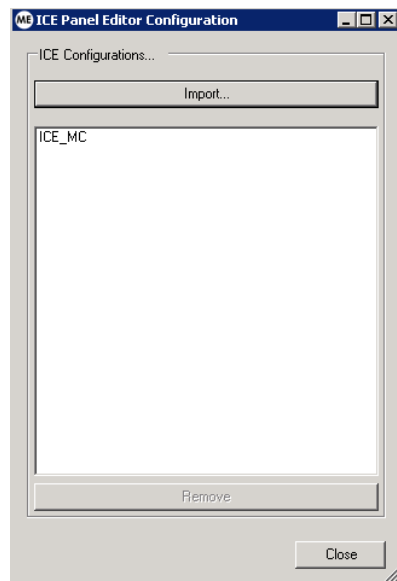

Figure 235 ICE Panel Editor Configuration Window
1. Click on the **Configuration** button - the ICE Panel Editor Configuration Window is displayed (Fig. 235).
The 'Device Name Prefix' uniquely identifies the ICE (e.g. ICE_MC in Fig. 235). Refer to Section 13.18.1 Prerequisites.